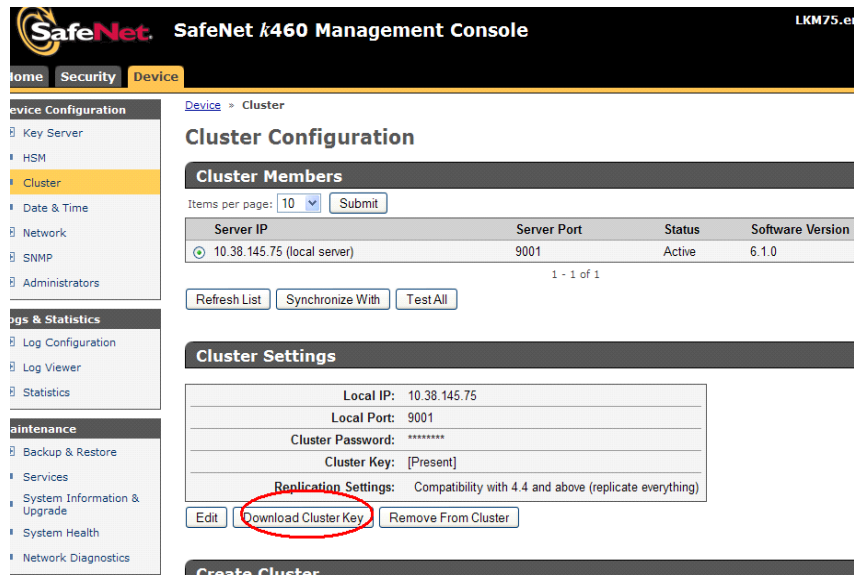

FIGURE 229 KeySecure Cluster Configuration page - Cluster Settings
- Under **Cluster Settings**, click **Download Cluster Key**. (Refer to Figure 229.)